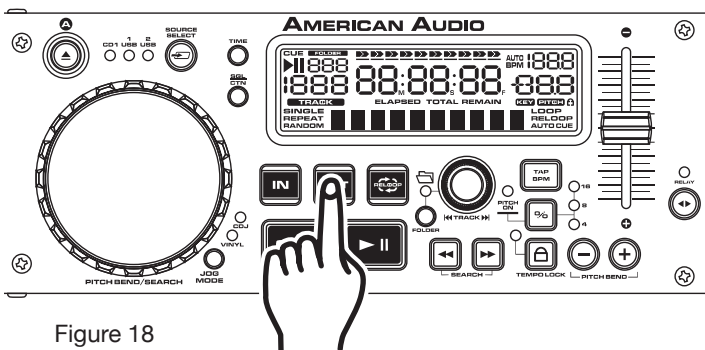

Figure 18
3) Press the OUT BUTTON (11) to set the ending point for your Loop (Figure 18). The LOOP IN AND OUT BUTTON LEDs will stay lit indicating a Loop is playing. Press the OUT BUTTON again to cancel the Loop.
4) Press the RELOOP BUTTON (11) to reactivate the loop. Press the OUT BUTTON (11) to deactivate the loop.
- 5) Press the *OUT BUTTON (11)* again when you reach your new ending point (Figure 18).
- **FOR A SHORTER LOOP:** Press the *OUT BUTTON (11)* at sooner point in the track (Figure 18).
- **FOR LONGER LOOP:** Press the *OUT BUTTON (11)* at later point in the track (Figure 18).